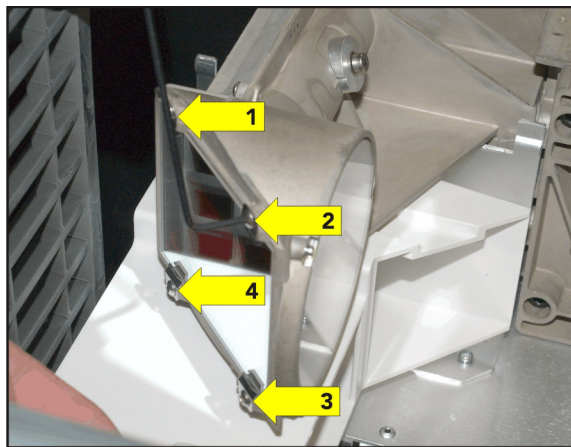

Figure 5-72 Loosen Cold Mirror Screws
5. Loosen the bottom two screws and then remove the top two screws and clips (**Figure 5-72**).